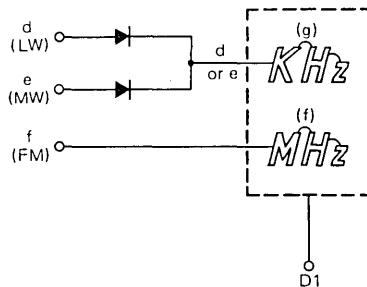

Fig. 2
** Display of "kHz" is made by OR signal of Sa and Sd. If no LW is available, "kHz" can be displayed by Sa only. (See Fig. 2)